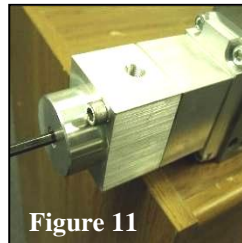

Figure 11
6. Using 3/16" hex-head driver, rotate spool to align assembly as shown in Figure 11.